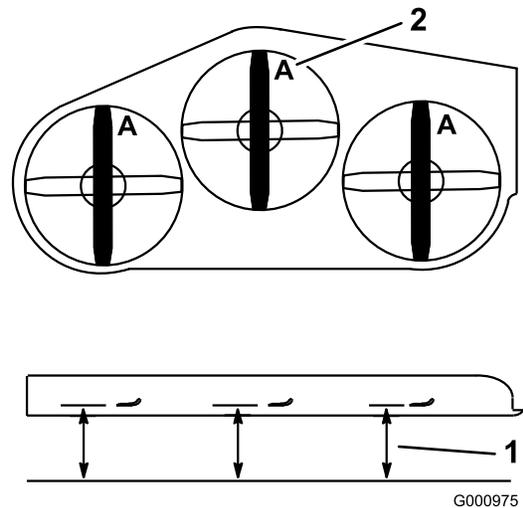

Figure 78
to the cutting edge, position **A**, of the blades (Figure 78). Note this dimension.
3. Rotate the blades until the ends face forward and backward (Figure 78). Measure from a level surface